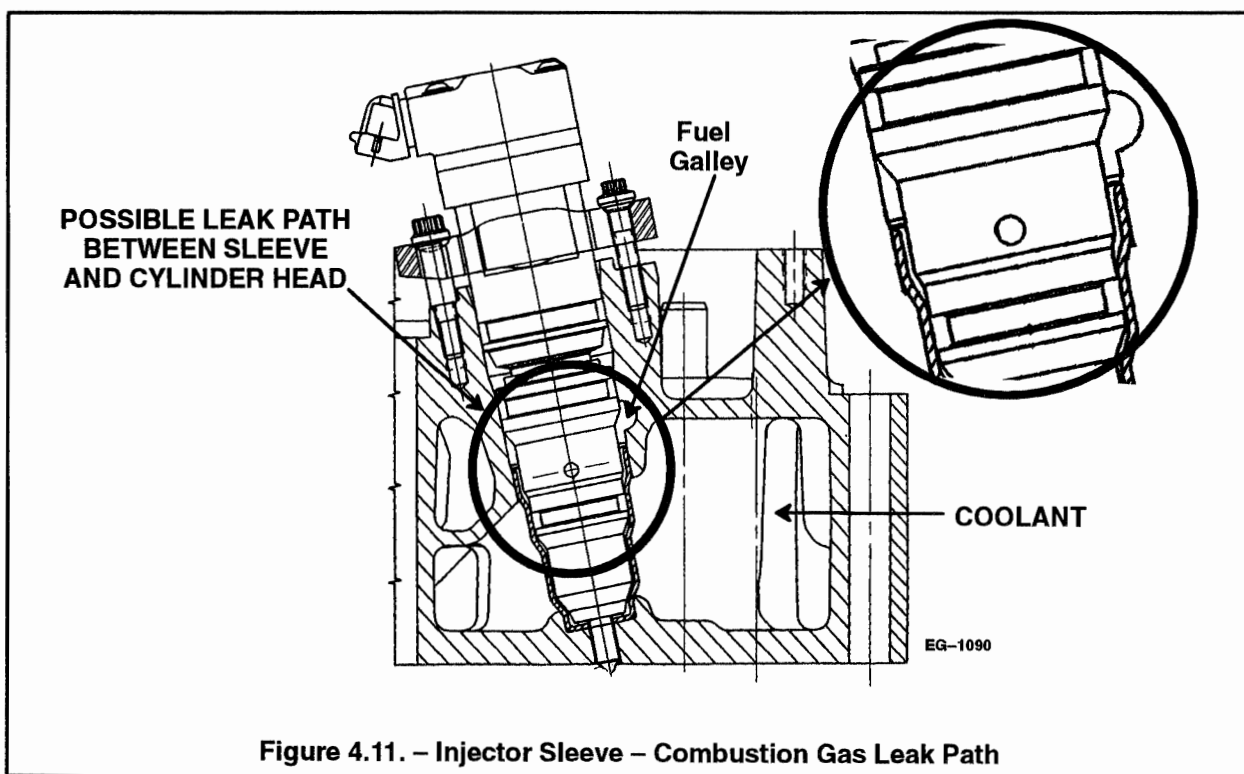

Figure 4.11. – Injector Sleeve – Combustion Gas Leak Path
- With cooling system pressurized, observe upper injector sleeve to head fit for leakage. (**Figure 4.11.**)